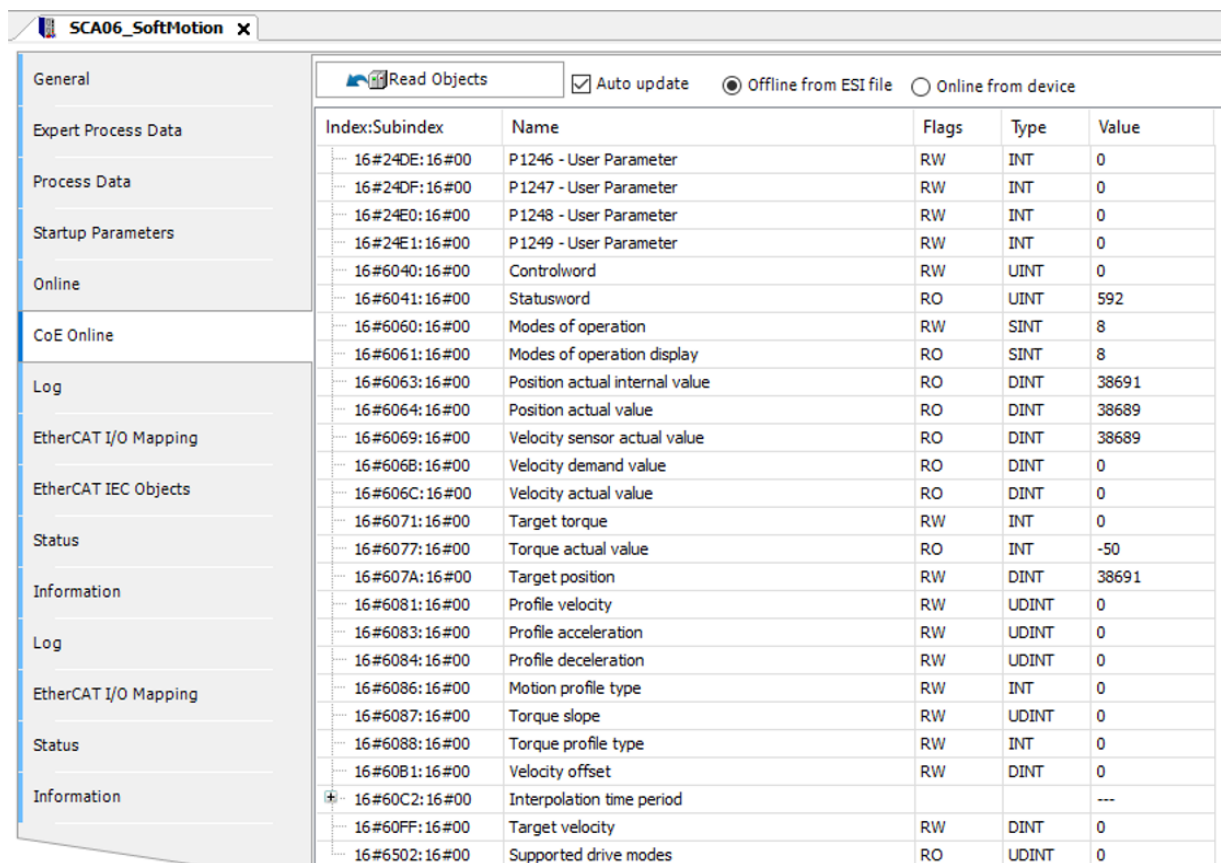

Figure 4.7: Online CoE
- Open the **CoE Online** tab and select **Auto Update**, as shown in Figure 4.7.